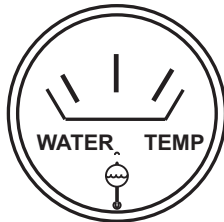

Figure 56. Coolant Temperature Gauge
18. The *coolant temperature gauge* (Figure 56) will indicate the coolant temperature. Under normal operating conditions the coolant temperature should be between 167 and 203 degrees Fahrenheit (**Green Zone**).